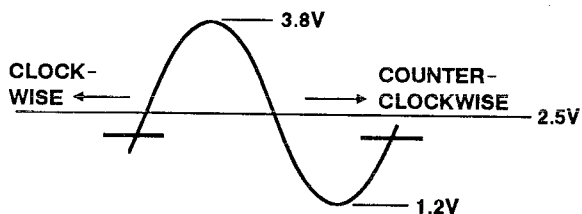

Figure 3. Voltage Change in Coil Adjustment
5. Turn AFT Centering Coil (T161) on Main Board fully clockwise, and then gradually turn the coil counterclockwise until voltage is at the maximum level (approximately 3.8V). Continue to turn the coil counterclockwise until voltage is at the minimum level (approximately 1.2V), and then turn the coil clockwise until voltage indicates 2.5V. Voltage change in the coil adjustment is shown in Figure 3.